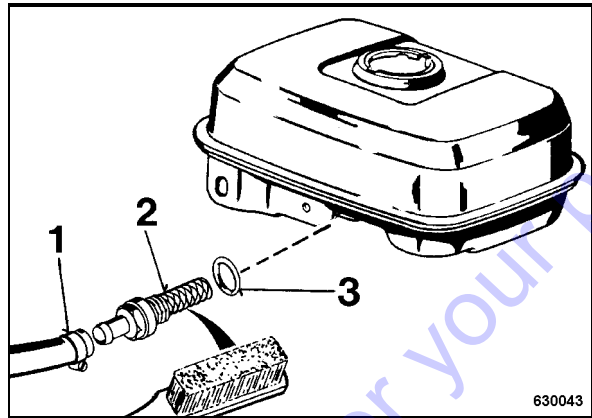

Fig. 51
- Open hose clamp 1 (Fig. 51), pull the hose off.
- Unscrew fuel screen (2).